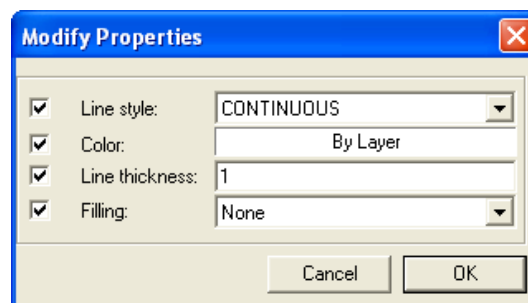

FIGURE 1.8-7 DISPLAY PROPERTY DIALOG WINDOW
**Properties.** If you select an entity and click on the Properties menu item, the Modify Properties dialog box opens and allows you to modify the display characteristics of the entity you selected on the screen (**Fig. 1.8-7**).